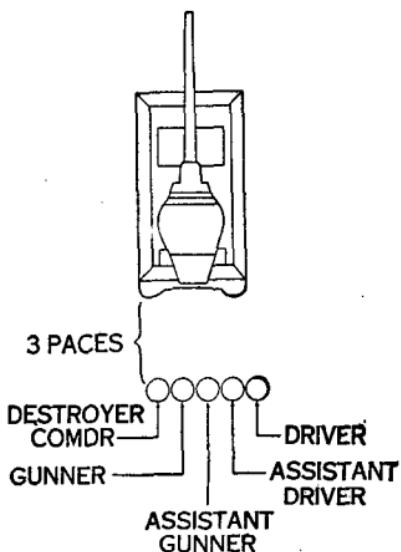

Figure 1. Dismounted posts.
**5. FORMATIONS.** a. Dismounted posts. The crew forms in one rank. The destroyer commander places himself three paces to front (or rear) of right track of vehicle, facing to the front. The others form at double time in line at close interval on the commander's left in the following order, right to left: gunner, assistant gunner, assistant driver, and driver. (See figs. 1 and 2.)
**6. TO FORM CREW.** a. **Crew being dismounted.** At the command IN FRONT, FALL IN, the crew takes dismounted posts in front of the destroyer. (See par. 5a and fig. 1.) At the command IN REAR, FALL IN, the crew takes dismounted posts in rear of the destroyer. (See par. 5a and fig. 2.) In falling in, crew members dress automatically on the destroyer commander at close interval and then come to attention without command.
**8. TO MOUNT.** a. The crew, being at dismounted posts in front of the destroyer (fig. 1), mounts as follows: